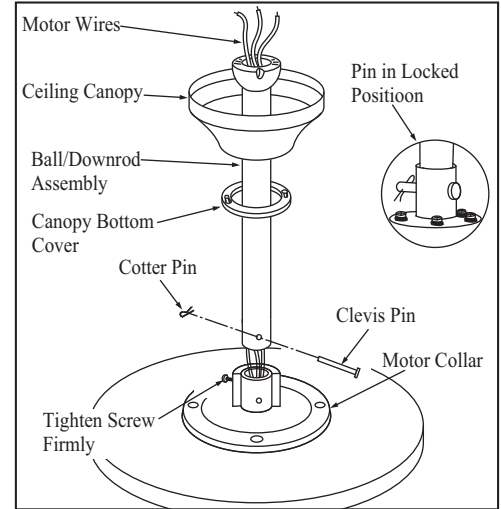

Figure 6
3. Remove the clevis pin, cotter pin and set screws from the top of the motor assembly. (Figure 6)
4. Route wires exiting from the top of the fan motor through the canopy cover and canopy and then through the ball/ downrod. (Figure 6)
5. Align the holes at the bottom of the downrod with the holes in the coupling on top of the motor housing (Figure 6). Carefully insert the clevis pin through the holes in the collar and downrod. Be careful not to jam the clevis pin against the wiring inside the downrod. Insert the cotter pin through the hole near the end of the clevis pin until it snaps into its locked position, as noted in the circle inset of Fig. 6.
6. Tighten two set screws at top of the fan motor collar firmly and evenly. (Fig. 6)